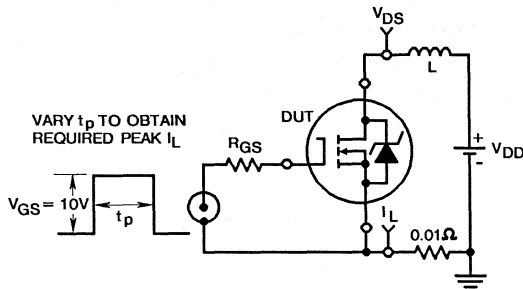

FIGURE 14. UNCLAMPED ENERGY TEST CIRCUIT
4. V_{DD} = 50V, Start T_J = +25°C, L = 7.0mH, R_{GS} = 50Ω, I_{PEAK} = 11A. (See Figures 14 & 15)
(See Figure 14, $L = 100\mu\text{H}$)